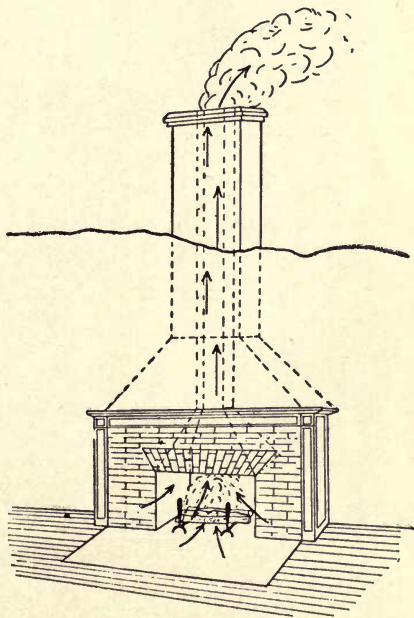

FIG. 34.—THE FIREPLACE HELPS TO VENTILATE THE ROOM
80. Development of Our Modern Heating Systems. Before coal came into general use, wood fires were the means of heating our houses, and fireplaces (Fig. 34) were built in nearly every room. Then came the air-tight wood stoves that warmed the rooms more effectively, as less heat was lost up the chimney. With the discovery of coal as a fuel, there resulted a means of keeping the fires